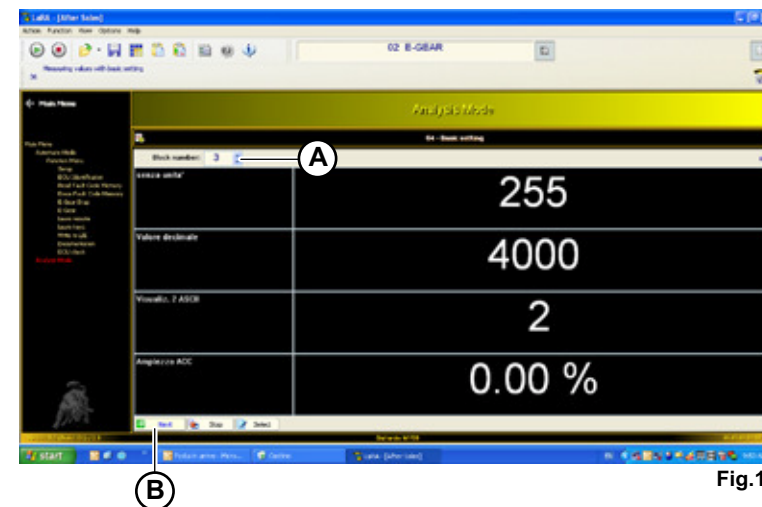

Fig.11
- Select routine 3 inside the block number (A-Fig.11).
- Start the connection () and press the start push-button (B-Fig.11).